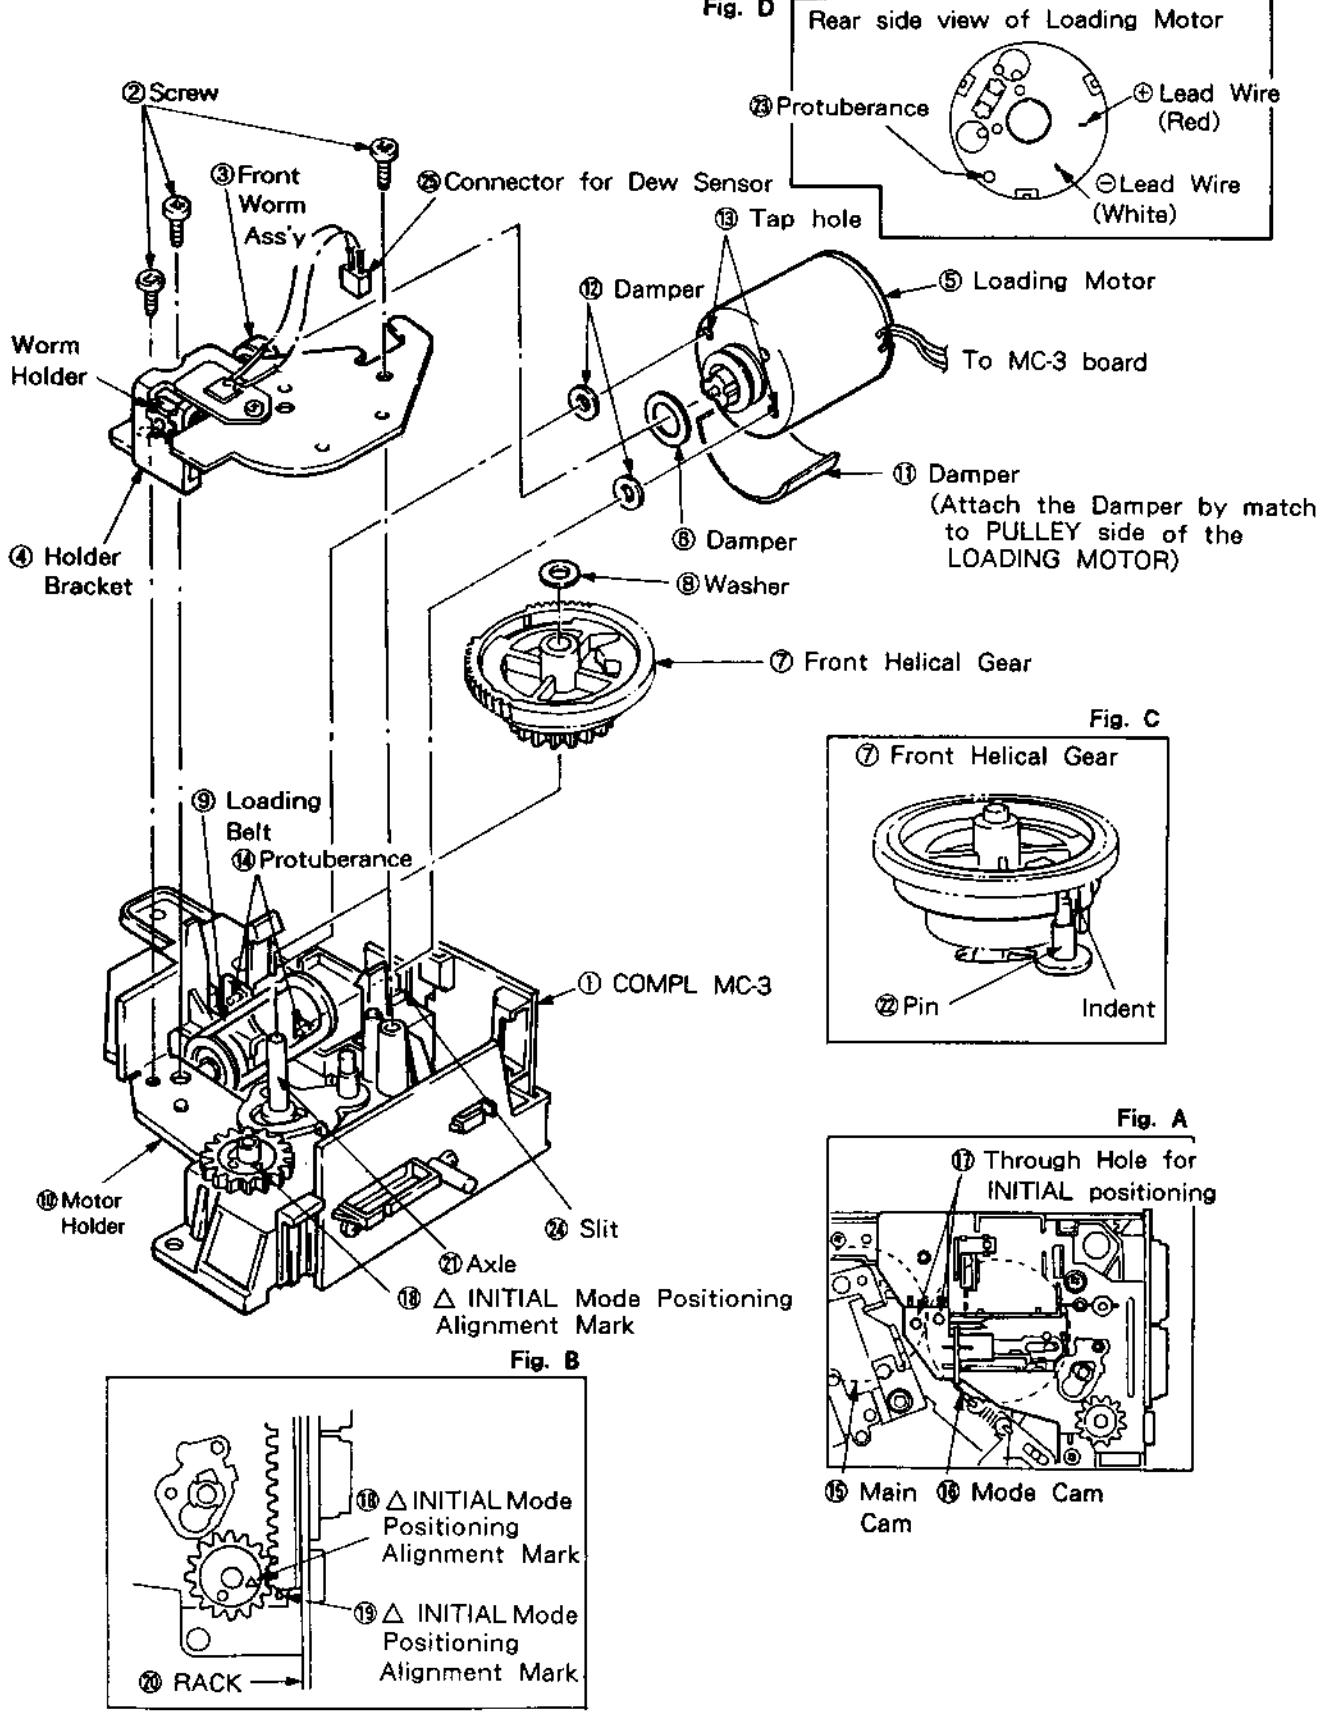

Fig. 2-3-2. Loading Motor
## 2-3-2. LOADING MOTOR (See Fig. 2-3-2.)
Before attaching the LOADING MOTOR ⑤ to the MOTOR HOLDER ⑩, confirm the DAMPER ⑪ and DAMPER ⑫ shown in Fig. 2-3-2. are in the proper position on the MOTOR HOLDER ⑩.
- 1) The LOADING MOTOR ⑤ puts the PROTUBERANCE ⑬ in the slit ⑭ of the MOTOR HOLDER ⑩.
- 2) Solder the lead wire from the MC-3 board to the LOADING MOTOR ⑤ terminal. (Solder the red lead wire to the positive terminal side.)
- 3) Hang the LOADING BELT ⑨ on the pulley.
- 4) After hanging the LOADING BELT ⑨ on the pulley, confirm that the mechanism unit is in the INITIAL mode. The INITIAL mode is indicated by Fig. A of Fig. 2-3-2., and is the position in which INITIAL mode positioning alignment holes of the MAIN CAM ⑮ and MODE CAM ⑯ are lined up with the THROUGH HOLE ⑰ of the MOTOR HOLDER. If the INITIAL mode is not selected, adjust with the MODE SELECTOR (VHJ-0050).
- 5) As shown in Fig. B, confirm the positions of the △ INITIAL mode positioning alignment mark ⑯ on the FRONT LOAD GEAR and INITIAL mode positioning alignment mark ⑯ position of the MOTOR HOLDER and the position relationship of the RACK ⑰.
- 6) Apply a light coat of grease to the entire sides of the AXLE ⑮ and FRONT HELICAL GEAR ⑦.
- 7) Attach the FRONT HELICAL GEAR ⑦ and WASHER ⑧ to the AXLE ⑮. As shown in Fig. C, the FRONT HELICAL GEAR ⑦ is attached so that the indent on the side is inside PIN ⑯ of the FRONT LEVER ASS'Y.
- 8) Attach the DAMPER ⑥ to the LOADING MOTOR ⑤ pulley.
- 9) The HOLDER BRACKET ④ is attached by engaging the FRONT WORM ASS'Y ③ with the LOADING MOTOR ⑤ pulley, and held in place with three screws ②.
- 10) Attach the connector of the DEW SENSOR ⑩ to the MC-3 board ① and return the mechanism to the eject completion using MODE SELECTOR.